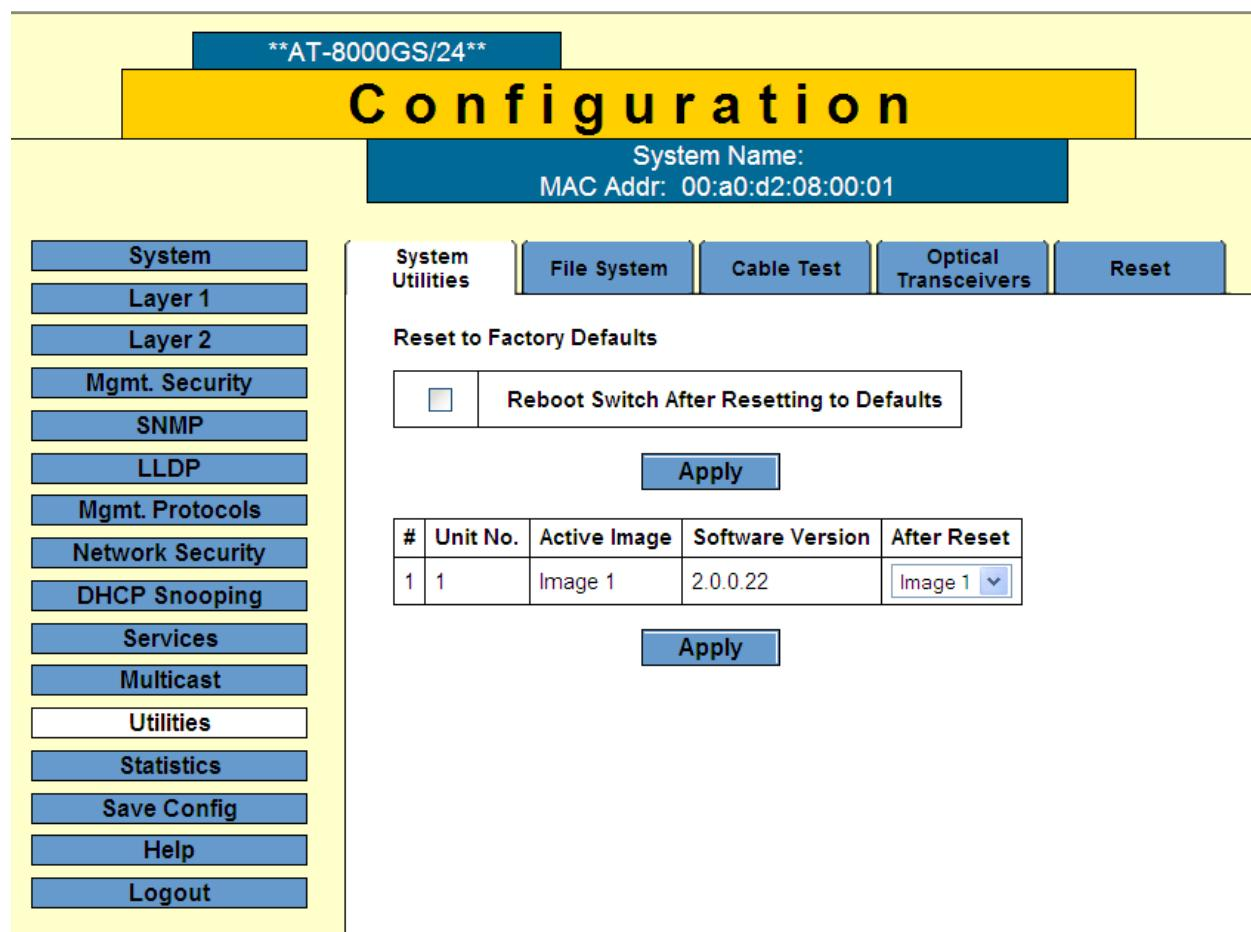

Figure 1. Utilities Tab
1. From the bookmarks on the left side of the page, select the Utilities tab. See Figure 1.